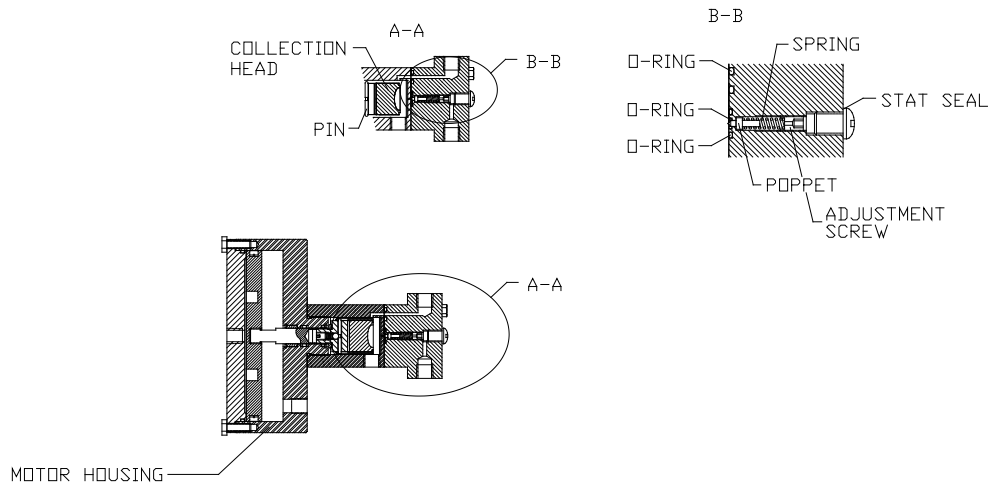

FIGURE 9
4.2.1 See Figure 9.
4.3.1 See Figure 9.